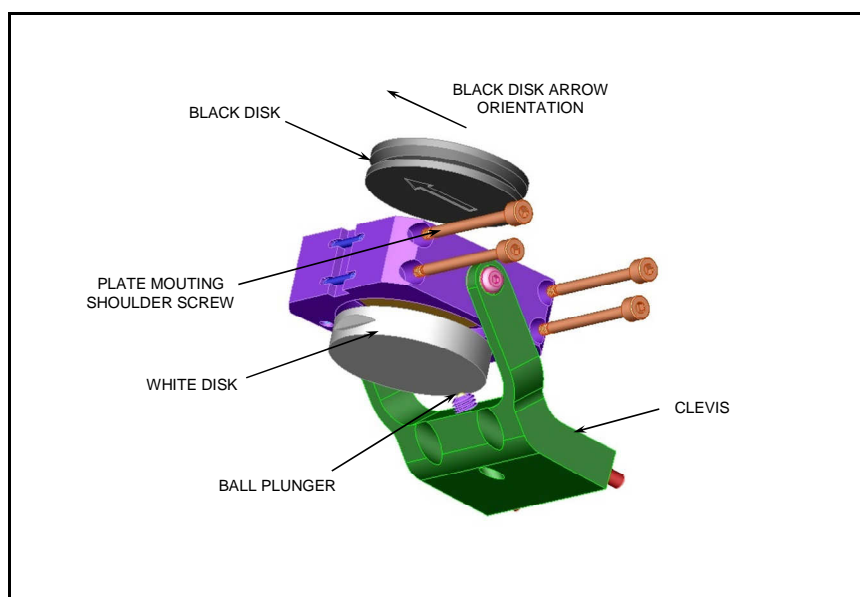

Figure 22 White/Black Disk Removal
1. Remove the 2 shoulder screws for the disk you want to remove using the 5/64" hex wrench. If needed the shoulder screw can be pushed out from the threaded end with the help of the 0.05" hex wrench (see Figure 22).
3. When reinstalling the Black Disk note the arrow imprinted into the disk, as it should be parallel to the arrow in Figure 22 and on the non-exposed side. This arrow orientation is important for providing the lowest reflectivity from the Black Disk.
4. When reinstalling the White Disk note the bevels on the side that interface with the shoulder screws (see Figure 22). The White Disk may be installed with either face out.